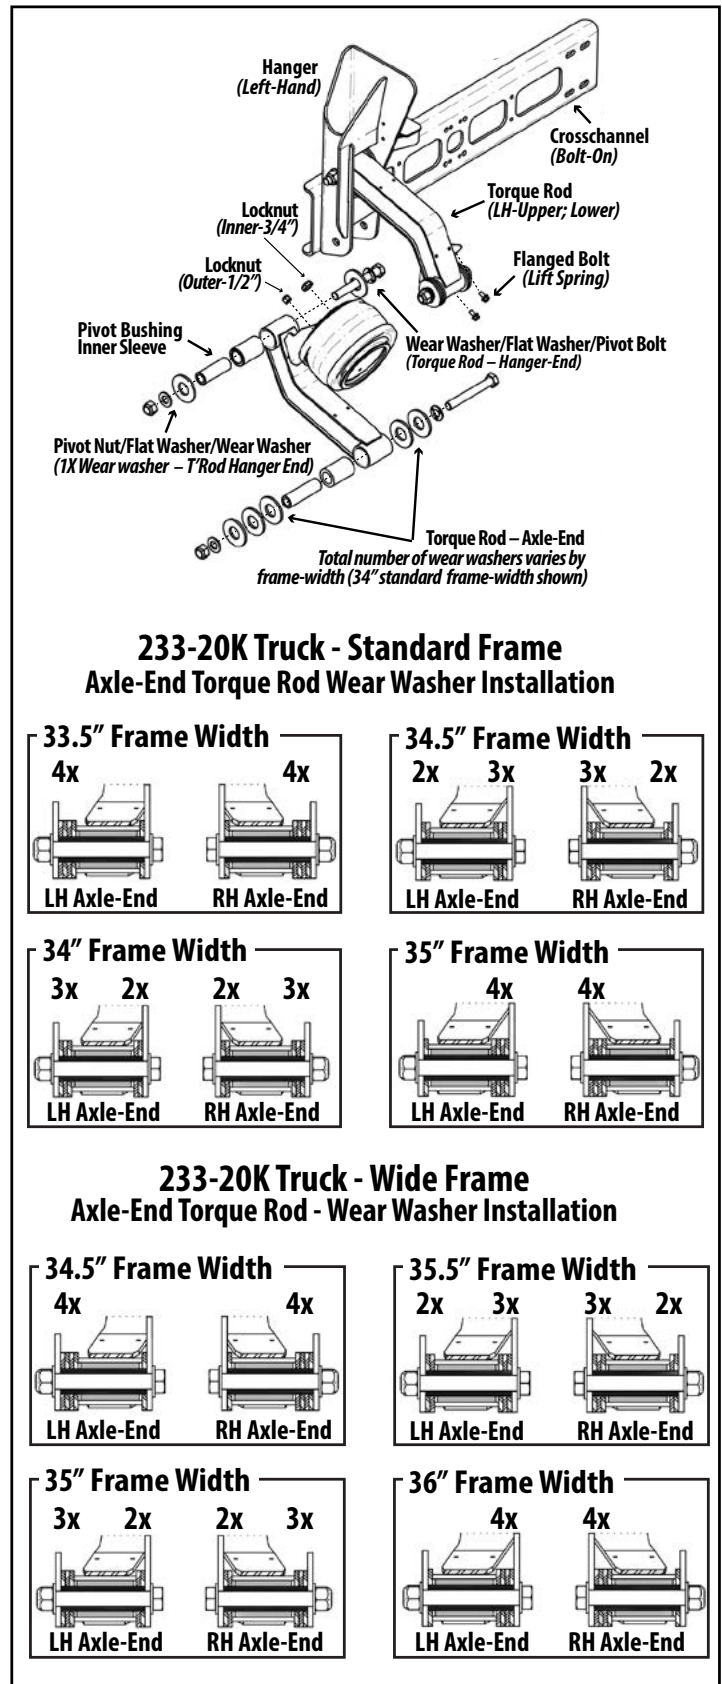

Figure 16.
2. Count the number of wear washers on each side of the Torque Rod(s) on the Axle-End. The number of wear washers varies according to the frame width set by the distance between the frame hangers (Fig. 16).
Assemble pivot connection with the number of wear washers on either end of the inner sleeve. Inner sleeve must be flush with or slightly past the outside of the wear washers on both ends (Figure 16).